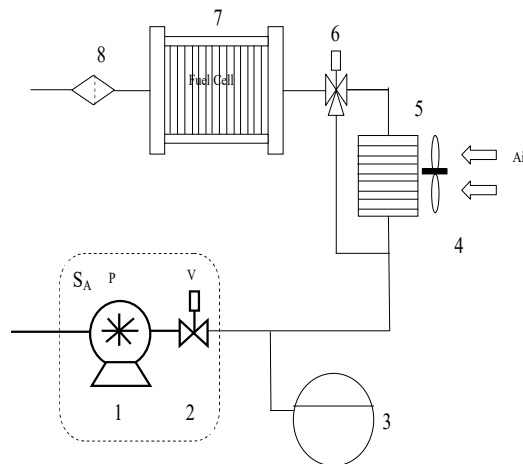

Figure 2: Configuration A of fuel Cell cooling loop
As shown by figure 2, the water management circuit allows the Proton Exchange Membrane Fuel Cell PEMFC (7) to operate within 60–80 °C.